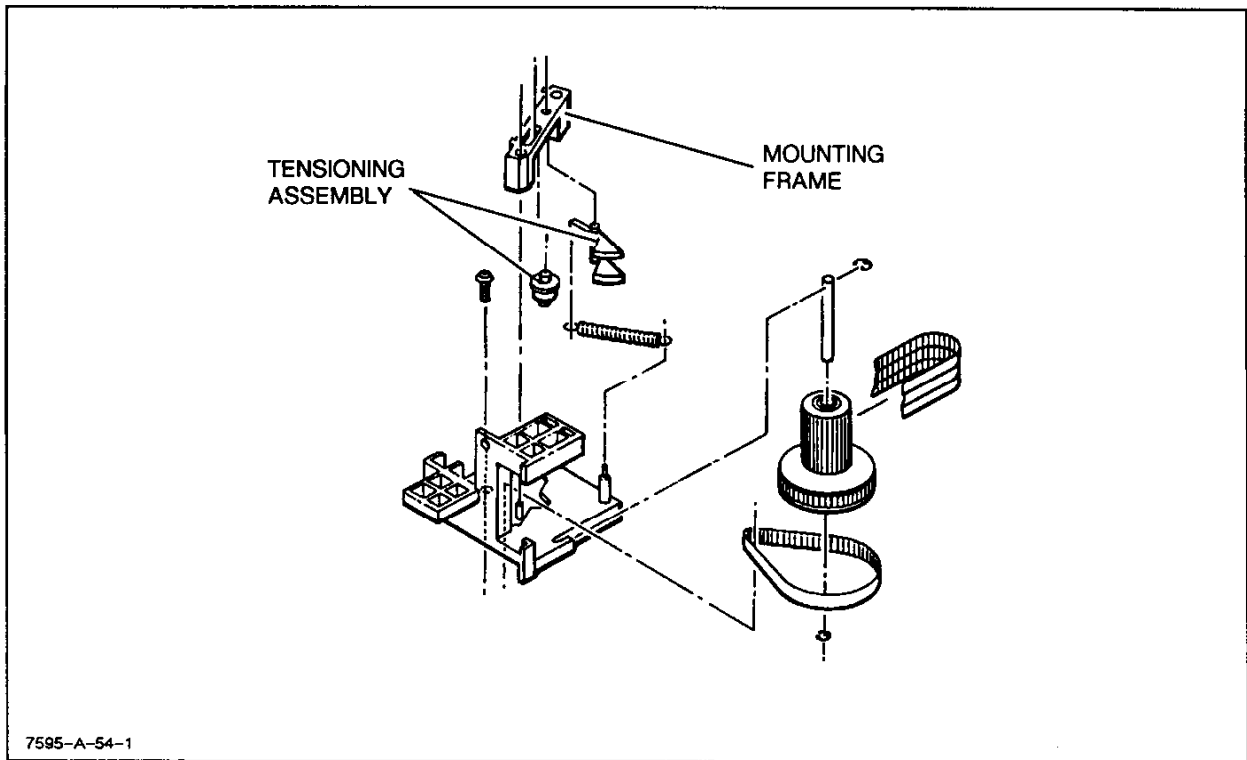

Figure 6-18. Tensioner Assembly Exploded View
- a. Turn the plotter line switch to OFF (O) and disconnect the ac power cord.
- c. Note the position of all parts for future assembly. See Figure 6-18.